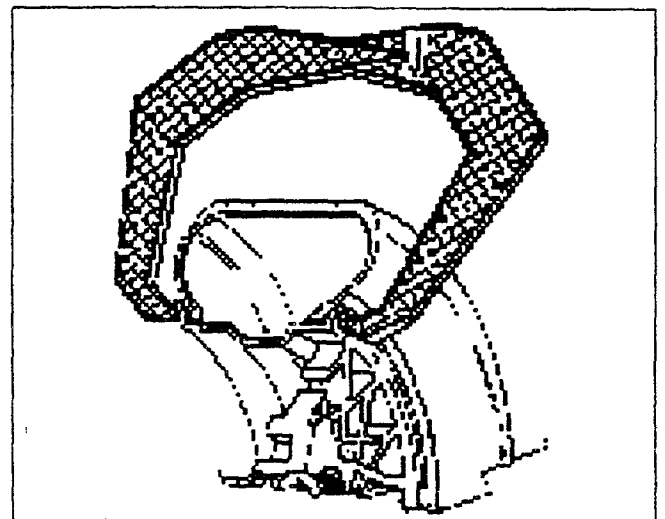

Fig.44
- D.** Measure the rim width with the wheel gauge supplied standard (Fig.44).